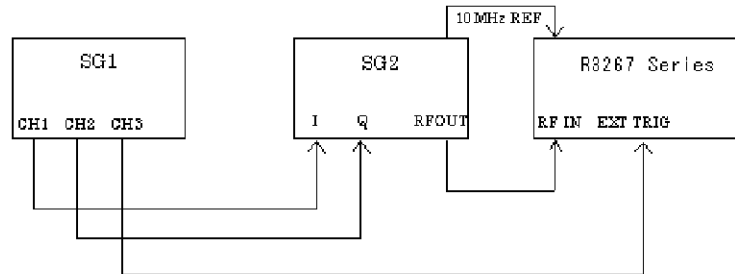

Figure 6-6 Setup of Code Domain Power Test
1. Connect equipment as shown in Figure 6-6.